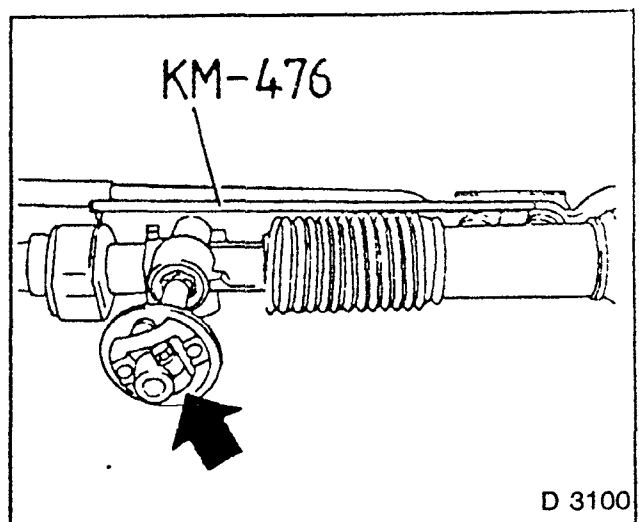

Fig. 6
1. When clamp flange bolt is positioned diagonally Fig. 6 — e.g. pinion misplaced by one tooth on steering rack (installation fault) — steering pinion position must be corrected immediately.